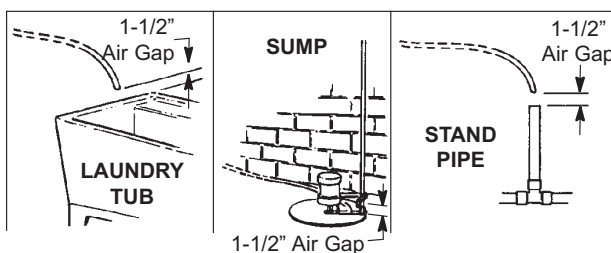

FIG. 7
- a. Take a length of 5/8" inside diameter garden hose and attach to the valve drain fitting (See Figure 7 on page 7).
- b. Locate the other end of the hose at a suitable drain point (floor drain, sump, laundry tub, etc.). Check and comply with local codes. Refer to Figure 7 on page 7 if codes require a rigid pipe drain run.
- b. Place bypass valve(s) into “bypass” position. On a single valve, slide the stem inward to BYPASS (See Fig. 7 on page 7). On a 3 valve system, close the inlet and outlet valves, and open the bypass valve (See Fig. 6 on page 7).